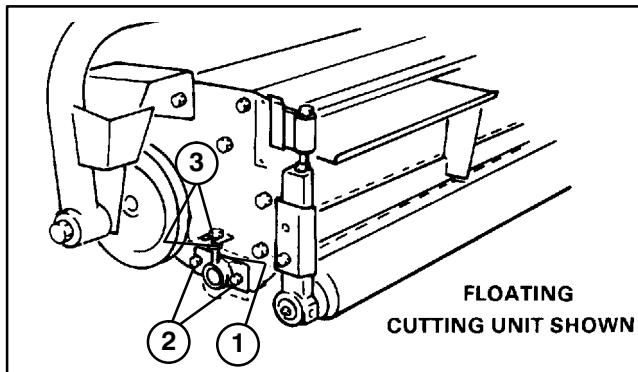

Figure 20
- Loosen (2) carriage bolts on bedbar adjuster (Fig. 20).